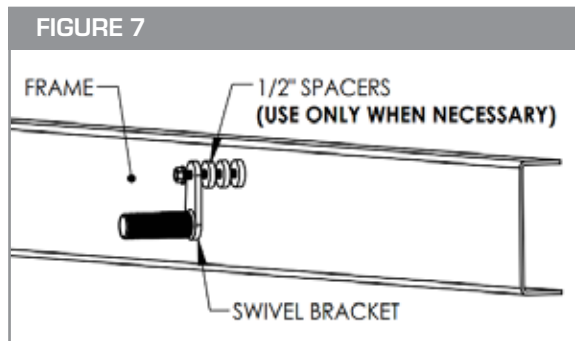

FIGURE 8
- Once the brackets are in position with the fender, tighten the 5/8" x 4-1/2" bolt that goes through the (10001472) swivel bracket to attach the swivel securely to the frame. (See Figure 8)